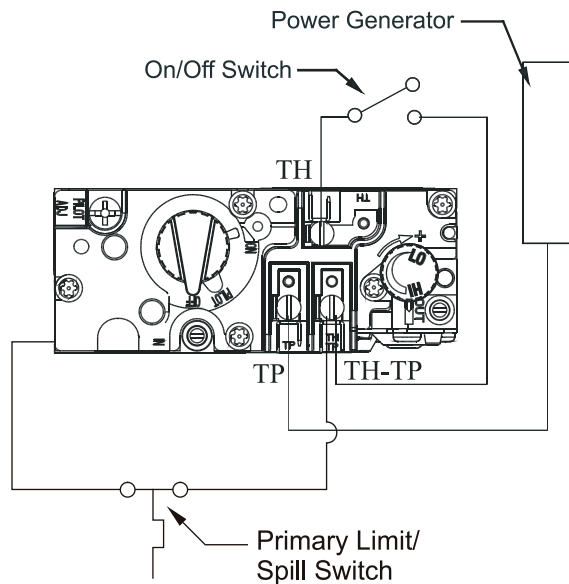

Figure 17. Honeywell VS8510E valve with millivolt control.
1. Locate Pilot Adjustment Screw. (See figure 17.)
Pilot won't ignite	Disconnect remote wires and try to light pilot. If pilot now works, remote connections are faulty. Check wiring diagram figure 17.
Main burner will not light	1. Check wiring (see figure 17). 2. Check wall switch for proper connection.